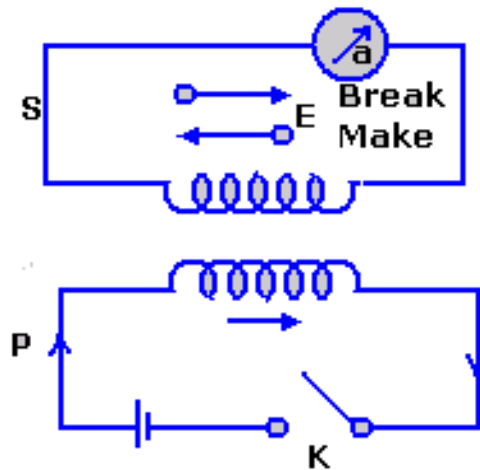

Figure 1.19 Static induction
In **Figure 1.19**, a EMF is induced in the secondary coil, marked (S) only when the switch (K) is closed or opened. The ammeter (a) will show a momentary in one direction when the switch is closed and a momentary current in the opposite direction when the switch is opened.